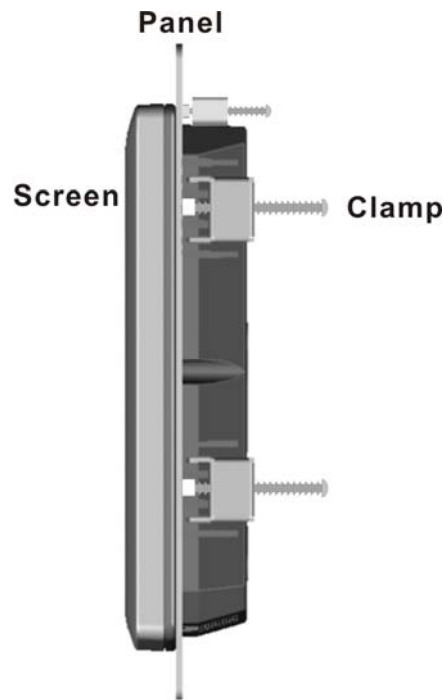

Figure 3-17: Tighten the Panel Mounting Clamp Screws (AFL-10A/12A-LX)
- Step 5:** Tighten the screws that pass through the panel mounting clamps until the plastic caps at the front of all the screws are firmly secured to the panel (**Figure 3-17**).